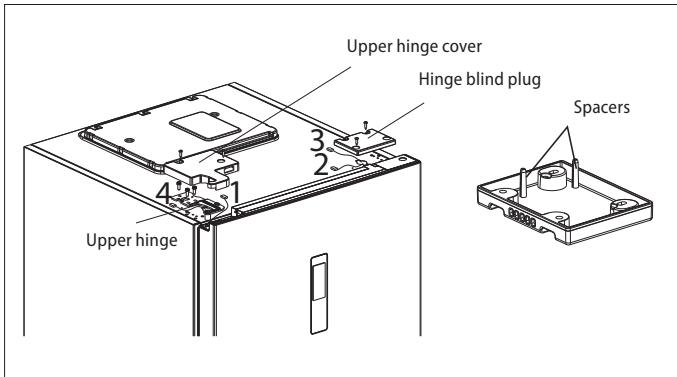

Fig. 7
14. Connect the refrigerator upper signal line [4] to the door body signal line [1] and the signal line [2] to the signal line [3] and install the upper plastic covers (Fig. 7).
15. Shorten the spacers on the hinge blind plug and fit the cover as shown in Fig. 7.